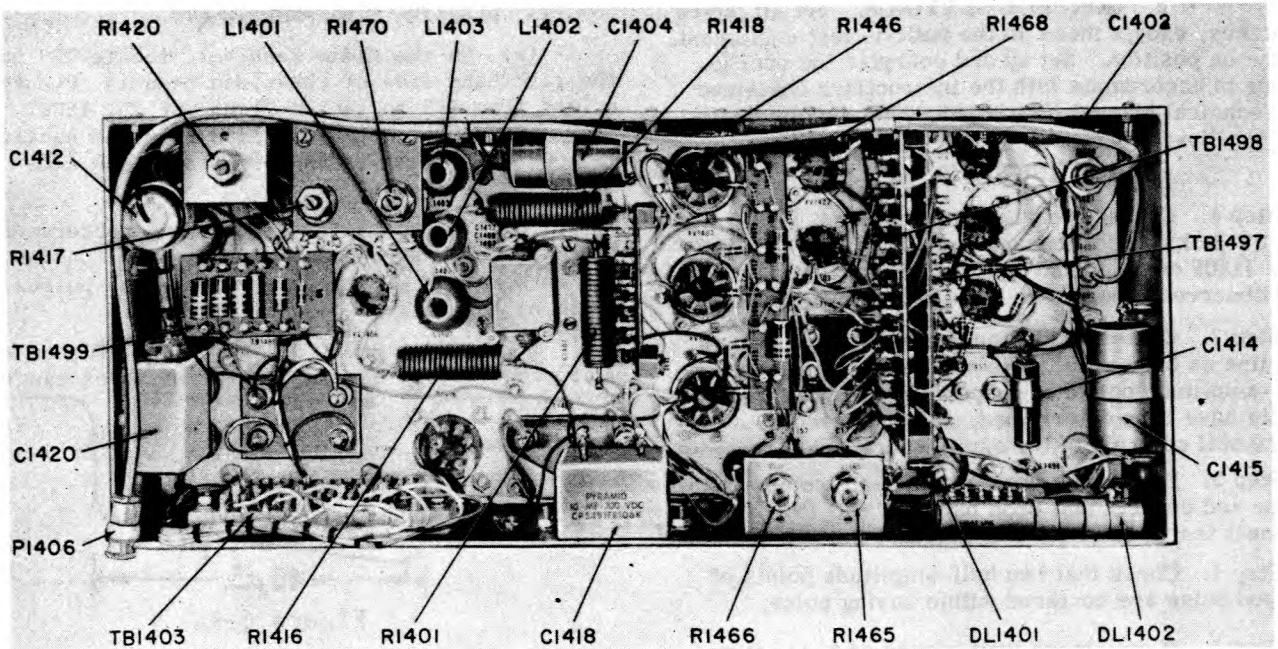

Figure 6-9. Frequency Multiplier-Oscillator CV-1171/GRN-9D, Video Chassis, Bottom View
Step 5. Measure pulse width at half-amplitude points. If it is not  $2.6 \pm 0.1$  microseconds, adjust potentiometer R1466 on frequency multiplier-oscillator video chassis (figure 6-9) to obtain this pulse width.
Step 12. Coils L1401, L1402, and L1403 (figure 6-9) are adjusted to proper value of inductance at factory and are not to be adjusted in field. Note that the inductance values are given to two decimal places on schematic diagram, figure 6-18. Replacement of these coils is a function of depot maintenance. Before replacing coil in shaper network, check its value on inductance bridge capable of measuring inductance in the range of 1 to 5 millihenrys to an accuracy of 100th of a millihenry.
Step 5. If not, move lead connected to tap (terminals 3, 4, 5, or 6) on delay line DL1402 (see figure 6-9), to one of the other taps as necessary to meet requirement.